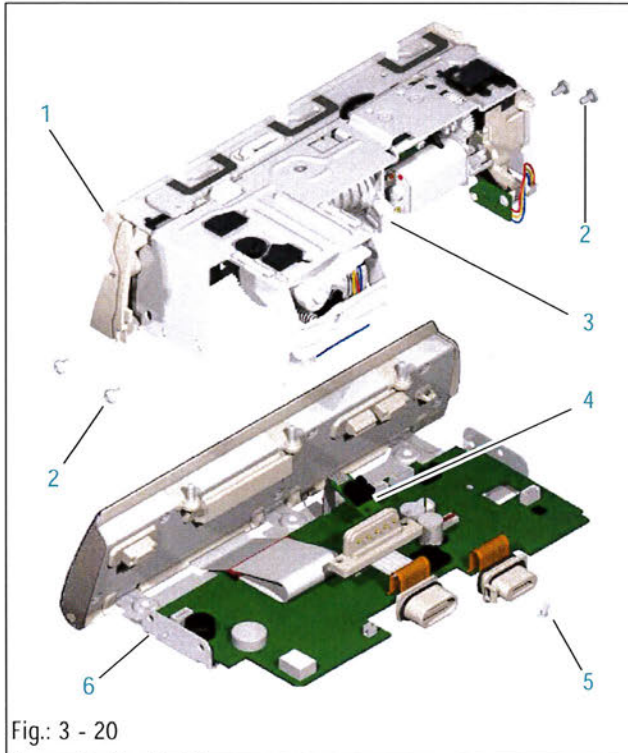

Fig.: 3 - 20
2. Pull the safety clamp connector (Fig.: 3 - 19 / Item 5) off the processor PCB.
3. Pull the pump drive connector (Fig.: 3 - 19 / Item 6) off the processor PCB.
Legend to fig. 3 - 20: